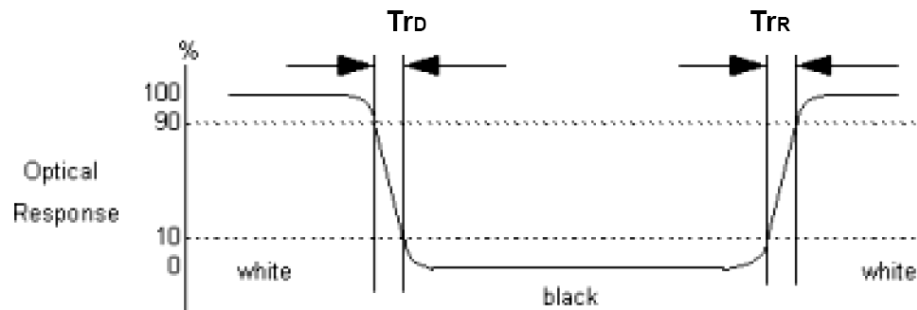

**Fig.4-2 Optical measurement point**
2. Surface luminance is luminance value at point 1 across the LCD surface 50cm from the surface with all pixels displaying white. From more information see Fig. 4-2. When  $V_{\text{DDB}} = 24\text{V}$ ,  $I_{\text{DDB}} = 6.3\text{A}$ .  $L_{\text{WH}} = L_{\text{on1}}$ , Where  $L_{\text{on1}}$  is the luminance with all pixels displaying white at center 1 location.